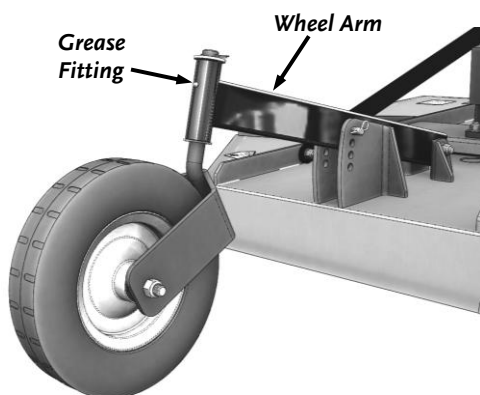

Figure 25
1. Wipe all dirt, etc., from the Wheel Support fitting with a clean cloth (Figure 25).